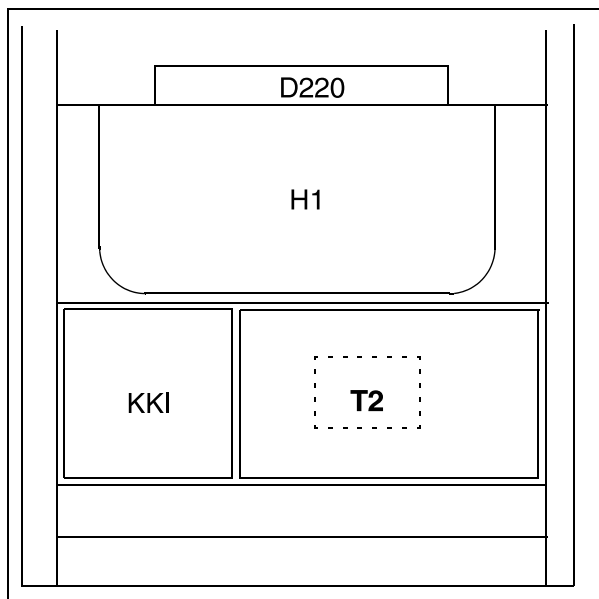

Fig. 28:
- The T2 auto transformer is already installed in the factory as specified in the BZ. For subsequent installation location, (Fig. 28 / p. 43)